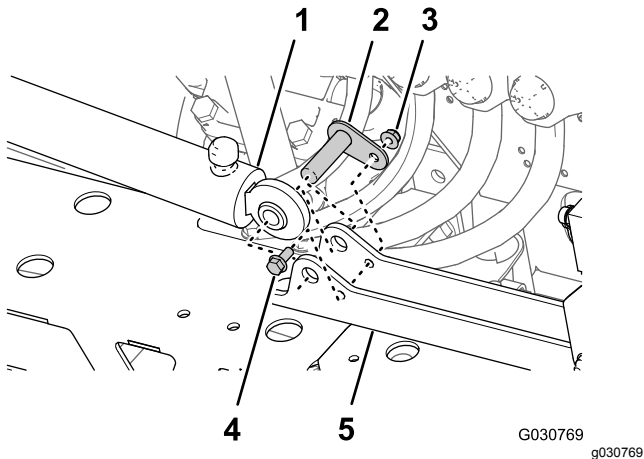

Figure 128
- Align the fixed end of the lift cylinder that you removed in step 4 of Removing the Lift Cylinders (page 34) to the 16 mm (5/8 inch) hole in the cylinder mount (Figure 128).
- Assemble the cylinder to the cylinder mount with the pivot pin, flanged-head bolt, and flange nut (Figure 128).